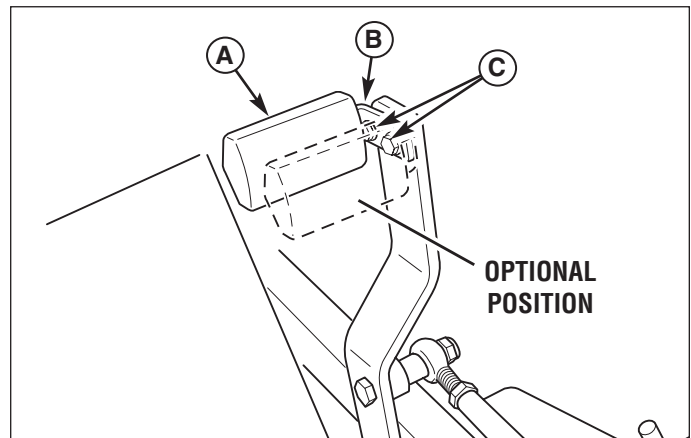

Figure 32. Foot Pedal Adjustment
1. Remove the foot pedal (A, Figure 32) from the pedal mount tab (B).
2. Remove the pedal mount hardware (C) and rotate the tab 180 degrees.
4. Reinstall the foot pedal on the pedal mount tab in the proper orientation as shown in Figure 32.